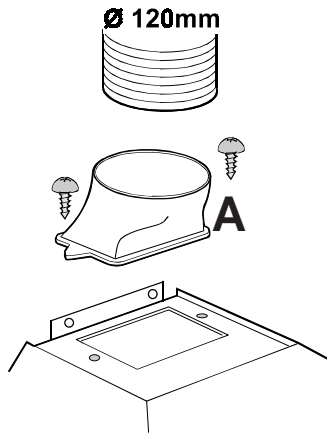

Fig. 1
A. Fig. 1.
- Fit the connection ring above the hood with two screws then fit an exhausting pipe long enough to reach the outside. **Fig. 1.**